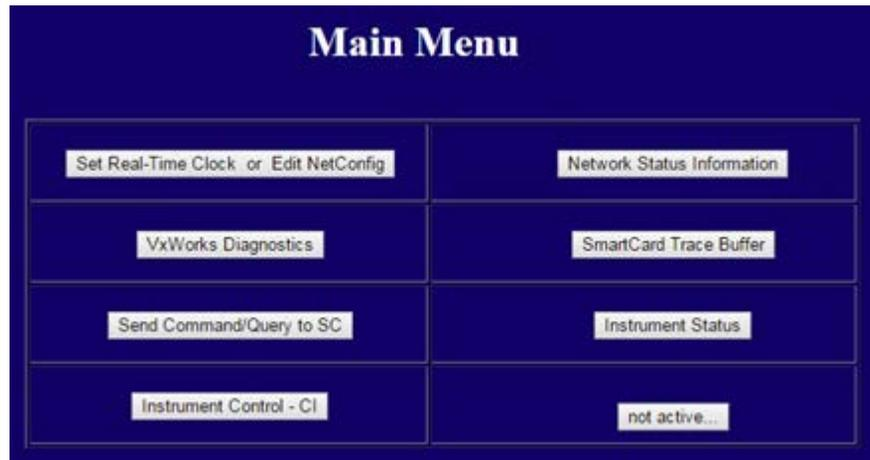

Figure 21. WUI main menu
- 4 Enter the IP address into a PC web browser URL to display the WUI page. (See Figure 21.)